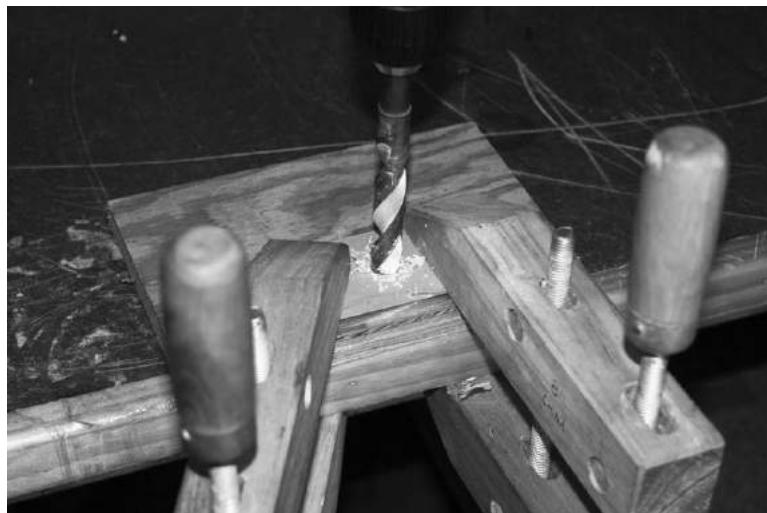

Figure 4-12: Drilling a large hole in the acrylic. Note that the acrylic piece is securely clamped down.
Use the bearing box template to mark the drill centers for holes A, B, and C on one of the bearing mount pieces. C will be the bearing hole, and A and B will be for the standoffs that mount to the motor plate. Center punch and drill one of the bearing plate's two smaller holes with a 2.5 mm (or # 39) drill and tap the hole with a M3-05 tap. These holes will accept the standoffs for mounting the motor. Use the same template to mark only the bearing hole (C) on the acrylic for the opposite side of the bearing box (see Figure 4-12). Then, take the two pieces of bearing box acrylic that won't hold bearings, and mark the center by drawing lines from corner to corner. Center punch them, and drill 1/4-inch holes for mounting to the stand.
When drilling any size hole in the acrylic, securely clamp the piece, as shown in Figure 4-12. Do not hold it manually. If the drill or hole saw binds, the acrylic will want to spin. In any case, keep the drill at a slow speed and advance it very gradually into the work.